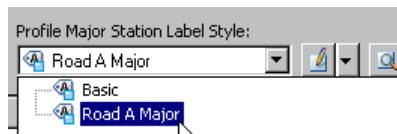

Figure 6-65 Selecting the *Road A Major* style
4. Select the **Road A Major** style from the **Profile Major Station Label Style** drop-down list, as shown in Figure 6-65.